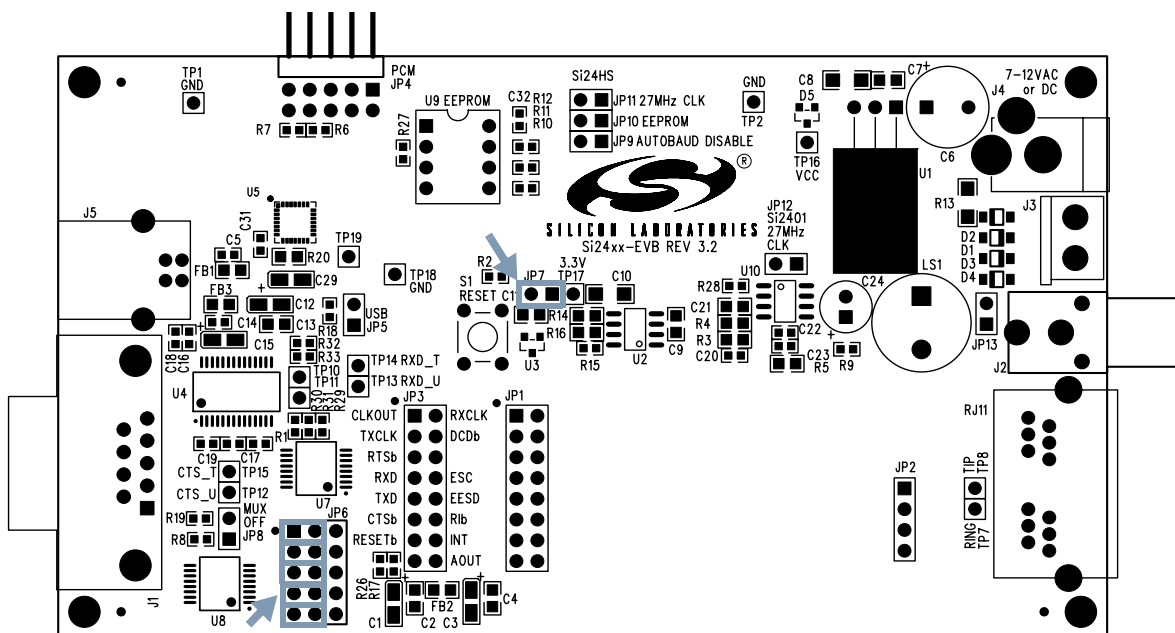
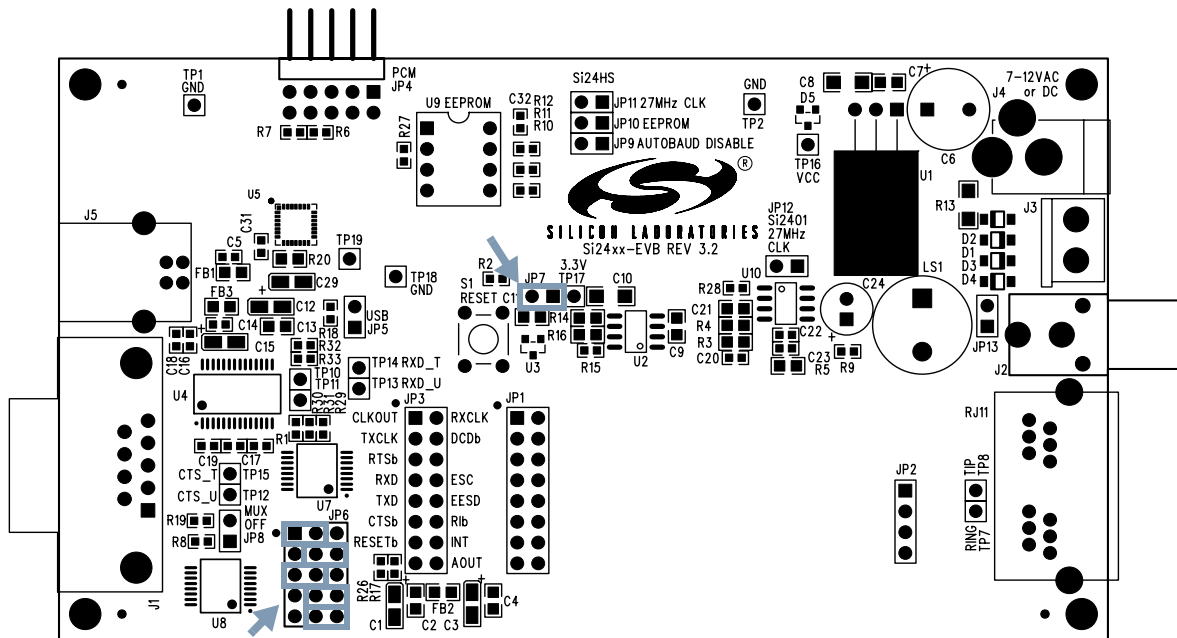
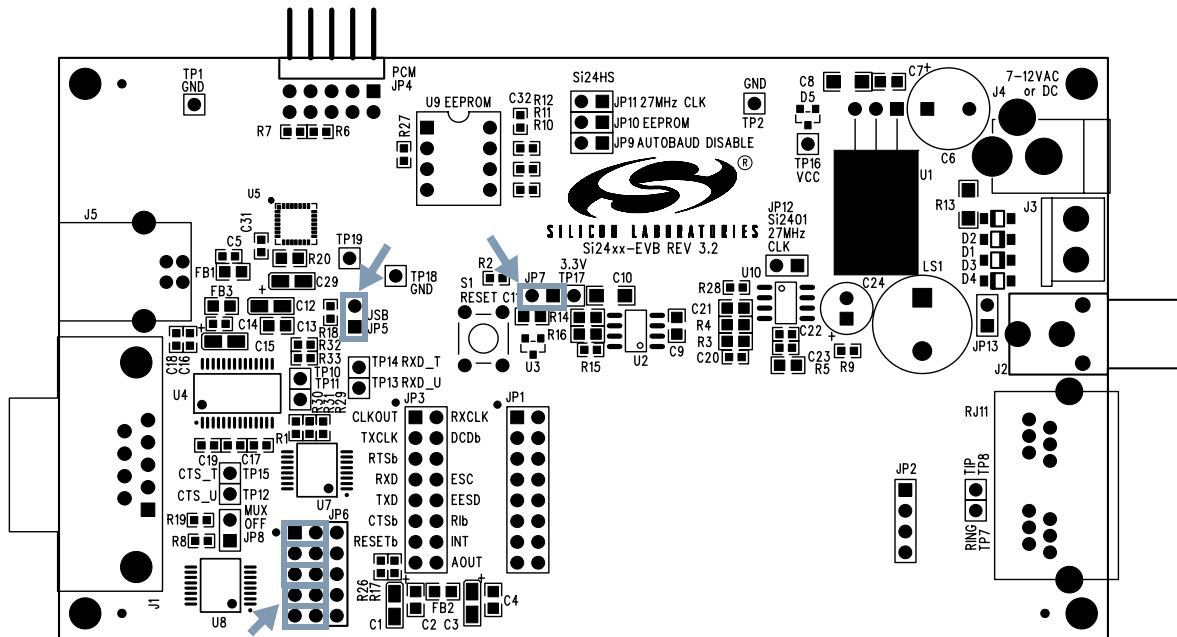
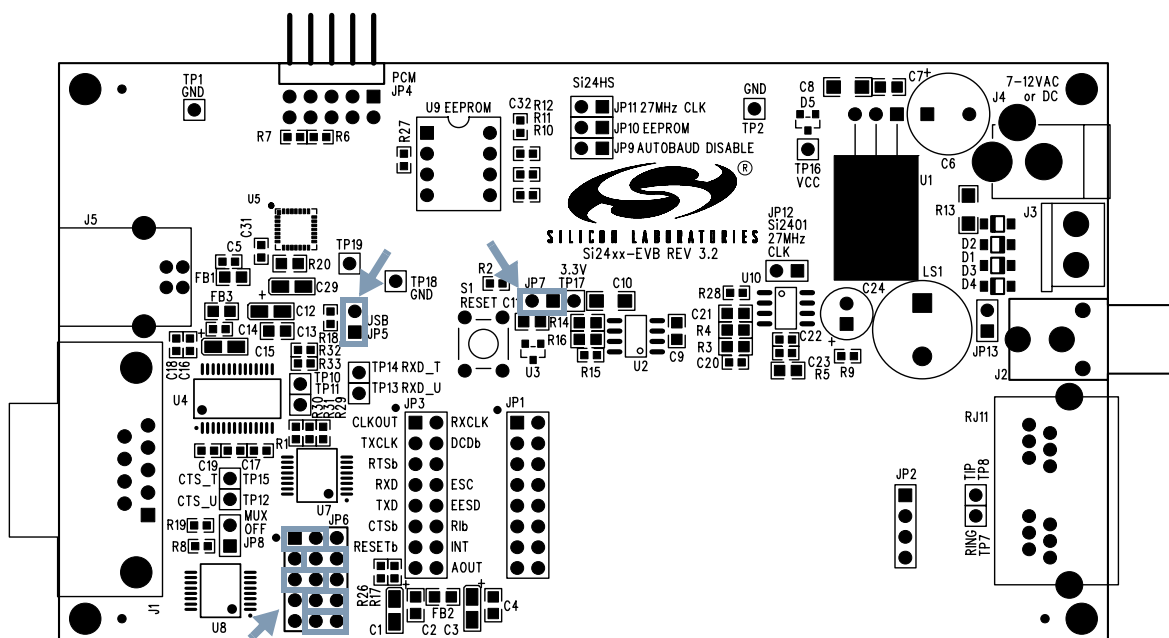

Figure 1. Standard Factory Jumper Settings—RS-232 Interface (Outlined in Gray) (FT Option)
Figure 2. Standard Factory Jumper Settings—RS-232 Interface (Outlined in Gray) (FS Option)
Figure 3. Standard Factory Jumper Settings—USB Interface (Outlined in Gray) (FT Option)
Figure 4. Standard Factory Jumper Settings—USB Interface (Outlined in Gray) (FS Option)
1. Set jumpers according to Figure 1 or Figure 2.
1. Set jumpers according to Figure 3 or Figure 4.
Check all jumper settings on the Si2493/57/34/15/04-EVB before applying power. The standard factory jumper settings for the FT package are shown in Figure 1; the FS package is shown in Figure 2. These settings configure the Si2493/57/34/15/04-EVB for RS-232 serial operation with autobaud. Any standard terminal program configured to communicate through a PC COM port can be used to communicate with the Si2493/57/34/15/04-EVB. The standard factory jumper settings for USB operation with the FT package are shown in Figure 3; the FS package is shown in Figure 4. The only difference between RS-232 and USB jumper settings is that JP5 must be installed to enable USB.
This operation mode uses the standard factory jumper settings illustrated in Figure 1 on page 2. The Maxim MAX3237 transceiver interfaces directly with the TTL levels available at the serial interface of the Si2493/57/34/15/04 and, using internal charge pumps, makes these signals compatible with the RS-232 standard. The RS-232 transceiver on the Si2493/57/34/15/04-EVB can communicate at rates between 300 bps and 1 Mbps. This simplifies the connection to PCs and other data terminal equipment (DTE). The signals available on the Si2493/57/34/15/04-EVB serial interface (DB9 connector) are listed in Table 2.